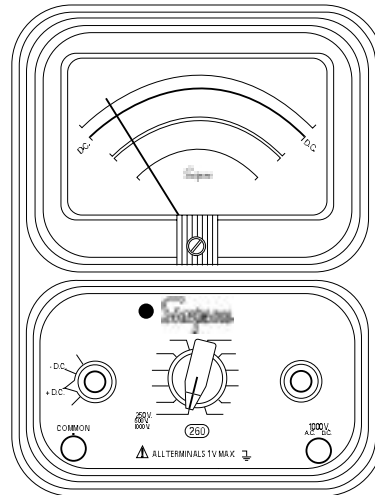

Figure 4-4 Jacks and Switch Positions for Measuring DC Voltages, 0-1000V Range
- a. Set the function switch at +DC (Figure 4-4).